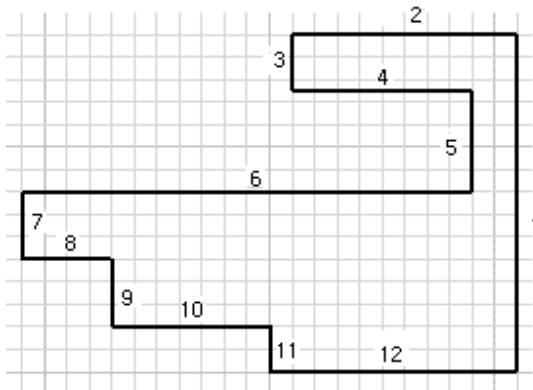

Figure 2-58 Sketch after drawing the lines
- Right-click to display the shortcut menu, and then choose **Done** from it to complete the sketch. The sketch should look similar to the one shown in Figure 2-58. For your reference, the lines in the sketch are numbered.
- Select line 4 and then line 5, refer to Figure 2-58; a fillet is created between these lines and the radius of the fillet is displayed in the sketch.
In Figures 2-58 and 2-59, the display of axes has been turned off for a better visibility of the lines of the sketch.